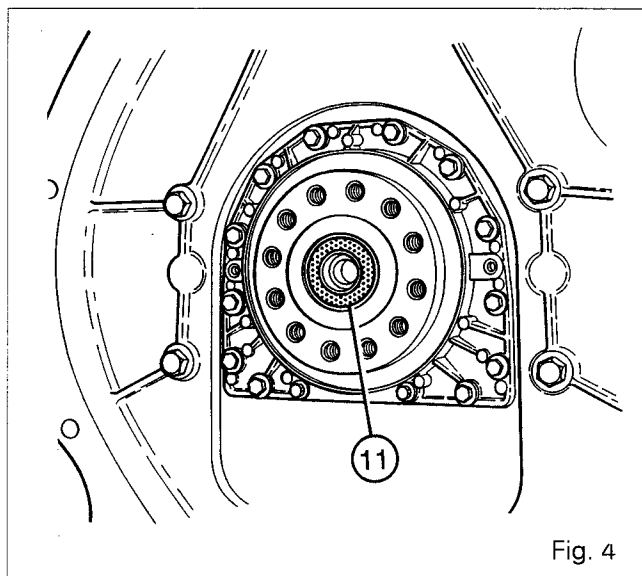

Fig. 4
2. Remove the bolts (8) and washers (5).
3. Remove the shock absorber. If necessary, use a suitable tool to extract the bearing (11) (Fig. 4).
If the bearing (11) (Fig. 4) is removed, it must be fitted using a suitable fixture pressing on the bearing's outer housing.